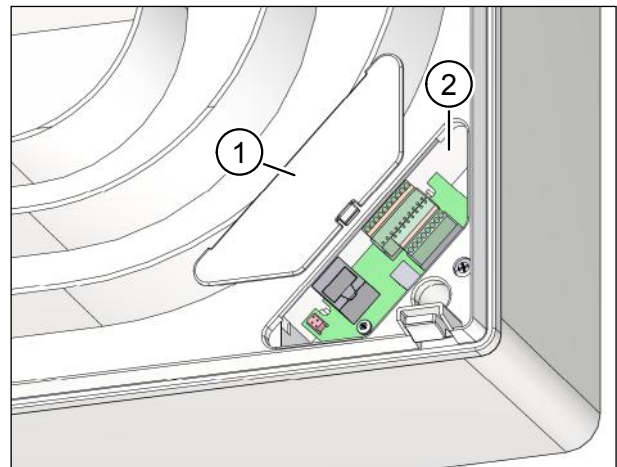

Fig. 31: Inserting the network connection cover
- ▶ Place the network connection cover (item 1 in Fig. 31) over the opening (item 2 in Fig. 31) and lock it in place.